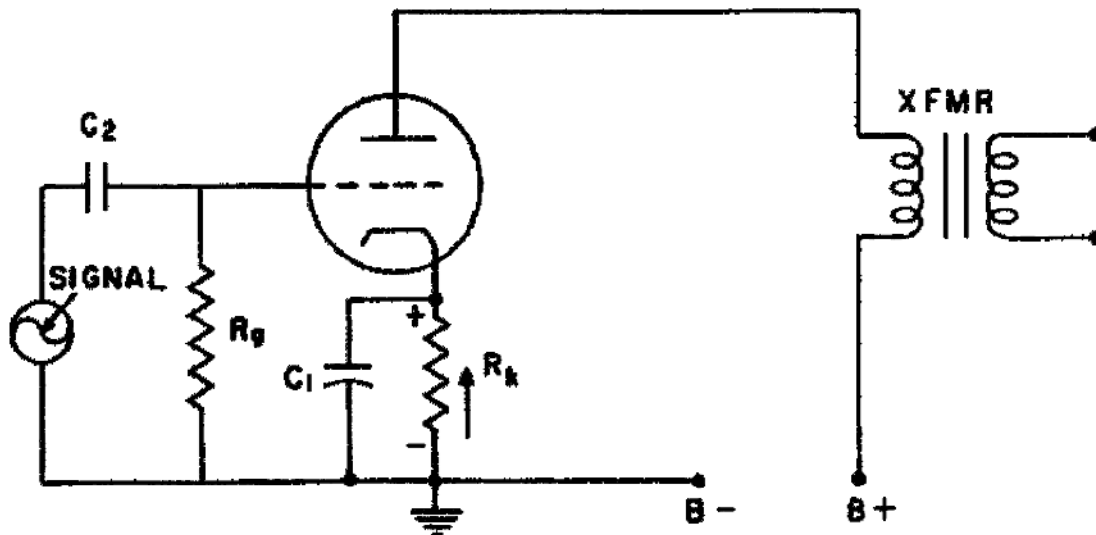

Figure 94. Cathode biasing with a cathode resistor.
9. The second method of obtaining grid bias is called cathode bias. The cathode bias method uses a resistor ( $R_k$ ) connected in series with the cathode, as shown in figure 94. As the tube conducts, current is in such a direction that the end of the resistor nearest the cathode is positive. The voltage drop across  $R_k$  makes the grid negative with respect to the cathode. This negative grid bias is obtained from the steady d.c. across  $R_k$ . The amount of grid bias on the triode tube is determined by the voltage drop ( $IR$ ) across  $R_k$ .